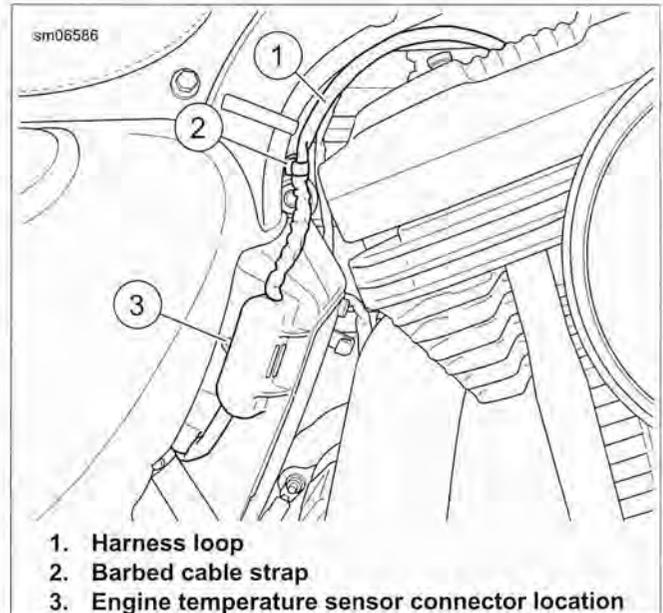

Figure 6-106. Engine Temperature Sensor Harness: XL Models
8. See Figure 6-106. Cut cable strap (2) securing ET sensor to harness.